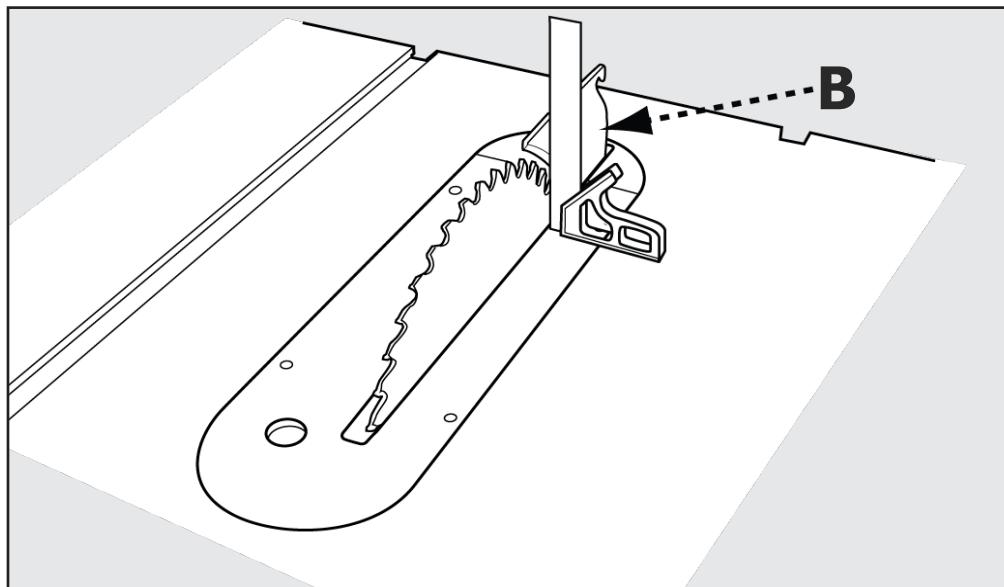

FIGURE 27
Place a framing square (B) on the table surface and against both blade and riving knife. The framing square should be in full contact with the blade face and riving knife. See Figure 27.